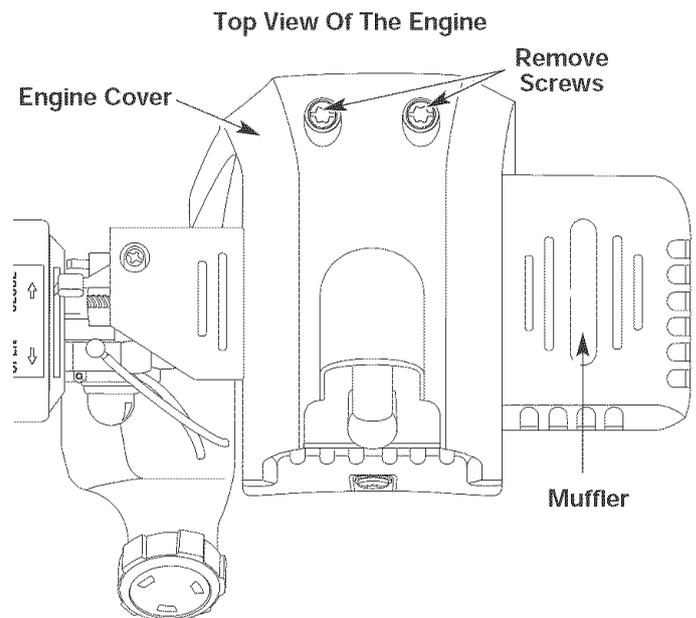

Fig. 23
1. Remove the two (2) screws on top of the engine cover with a Flat-head or T-25 Torx screwdriver (Fig. 23).